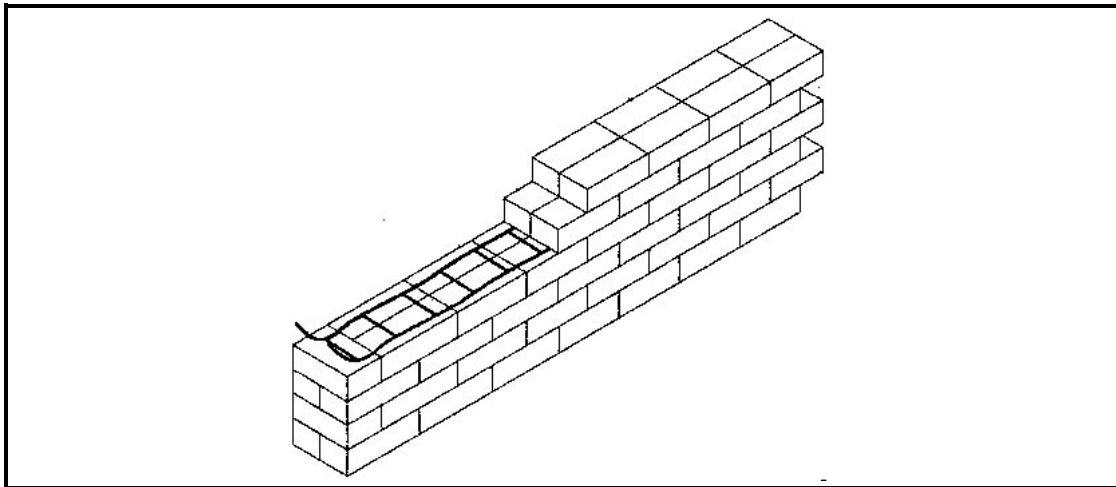

FIGURE 3.8
- 3.8 Answer the following questions with regard to the wall construction in FIGURE 3.8.